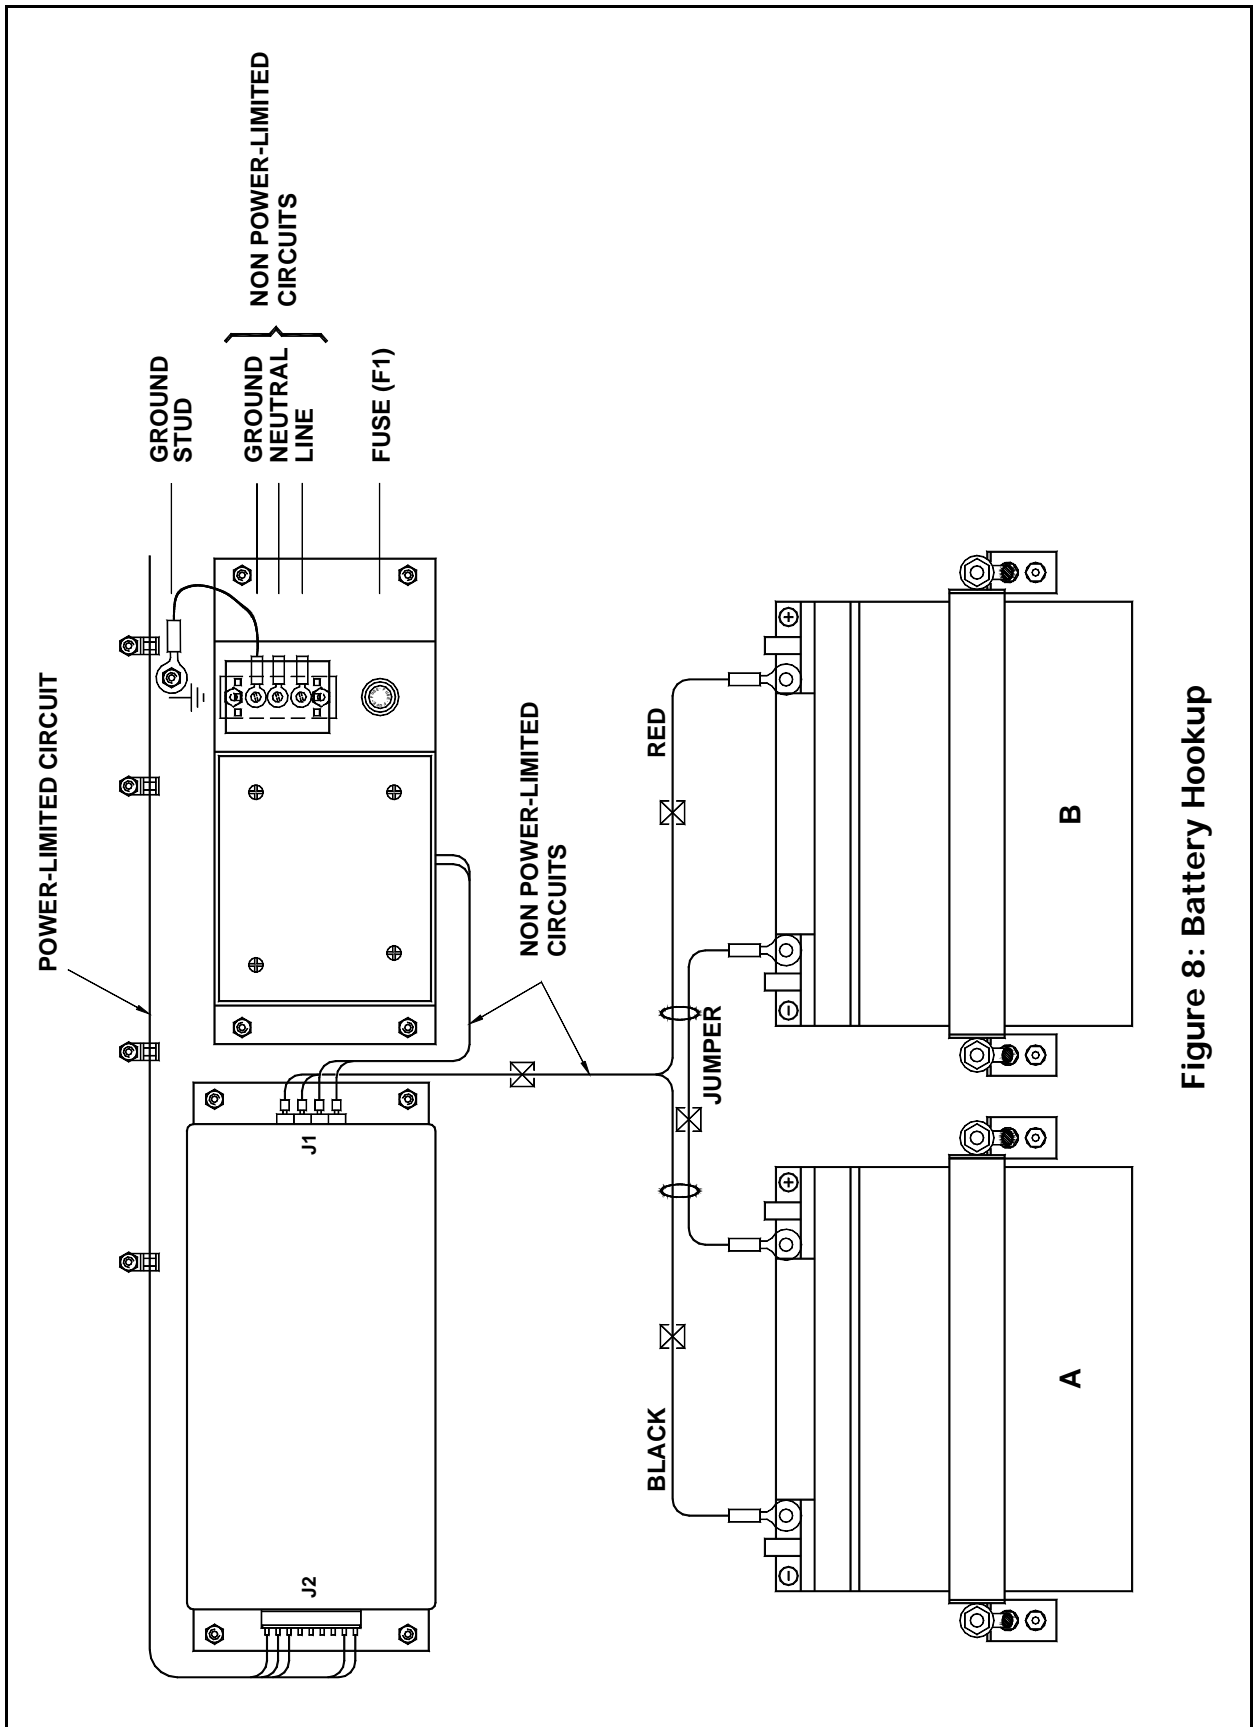

Figure 8: Battery Hookup
3. Connect jumper between the batteries 'A' and 'B' poles (see Figure 8).